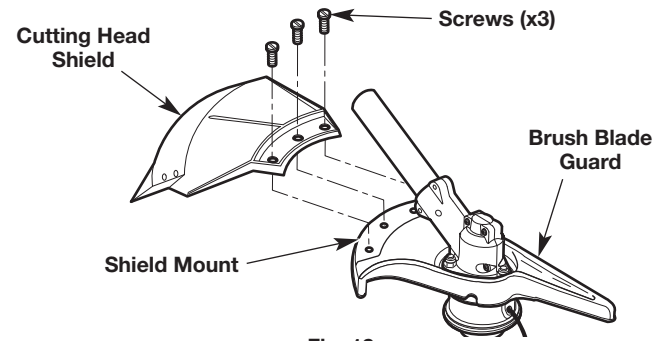

Fig. 18
1. Place the cutting head shield over the shield mount surface on the brush blade guard (Fig. 18).
2. Insert the screws (x3) through the screw holes on the cutting head shield (Fig. 18).
1. Unscrew the screws (x3) on the cutting head shield with a Phillips screwdriver (Fig. 18).